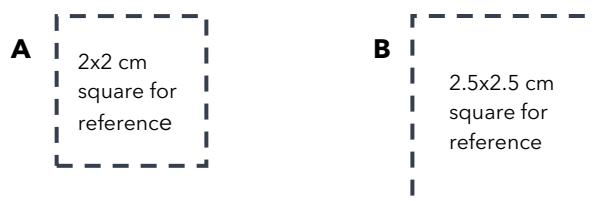

Figure 9. Reference size for **A)** Standard and **B)** Large.
6. Use scissors to cut a piece of Parafilm (**Standard: 2x2 cm; Large: 2.5x2.5 cm**). Use tweezers to peel off the Parafilm backing and place the side previously protected by the backing onto the solution. Avoid introducing air bubbles (Figure 9).
- Use scissors to cut a piece of Parafilm (**Standard: 2×2 cm; Large: 2.5×2.5 cm**). Use tweezers to peel off the Parafilm backing and place the side previously protected by the backing onto the solution. Avoid introducing air bubbles (Figure 9)